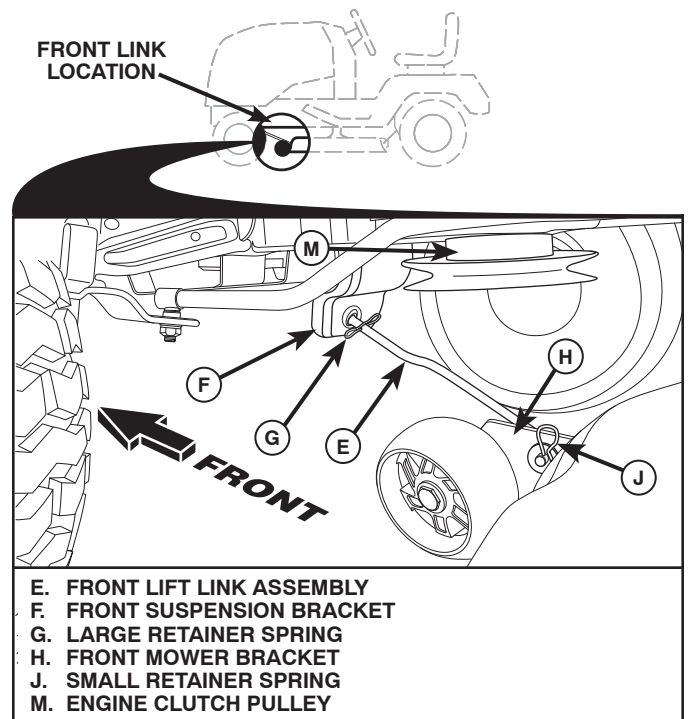

Fig. 13
8. ATTACH FRONT LINK (E) (See Fig. 13)
- From front of tractor, insert rod end of front link (E) through front hole in tractor front suspension bracket (F).
- Move to left side of mower and insert large retainer spring (G) through hole in front link (E) behind front suspension bracket (F).
- Insert other end of link (E) into hole in front mower bracket (H) and secure with washer and small retainer spring (J).